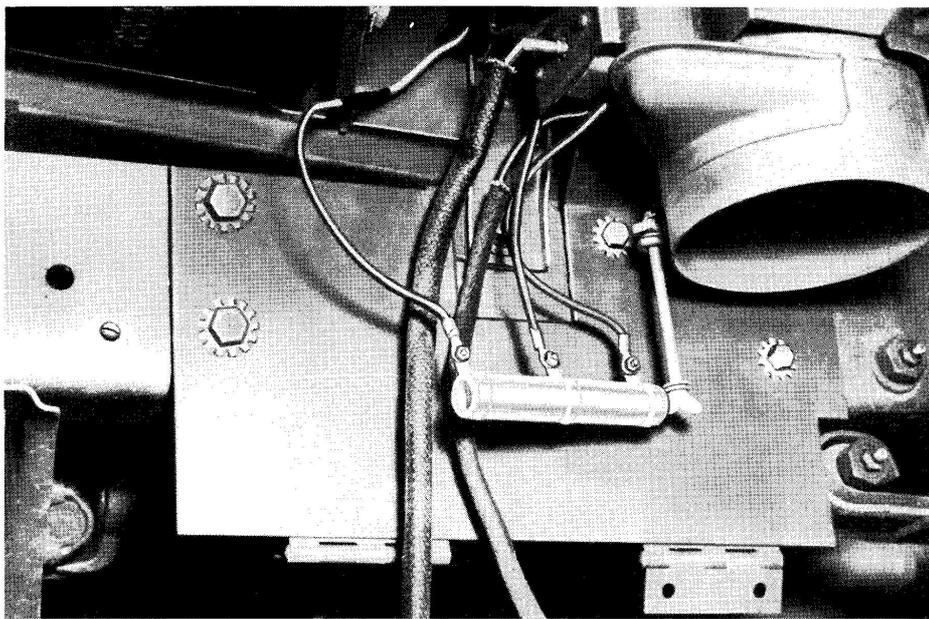

Fig. 8. Heater mounted to vehicle frame member.
- f. Mount the rear section of the heater mounting bracket to the vehicle frame member with two 5/16" bolts supplied in the kit, Fig. 8.